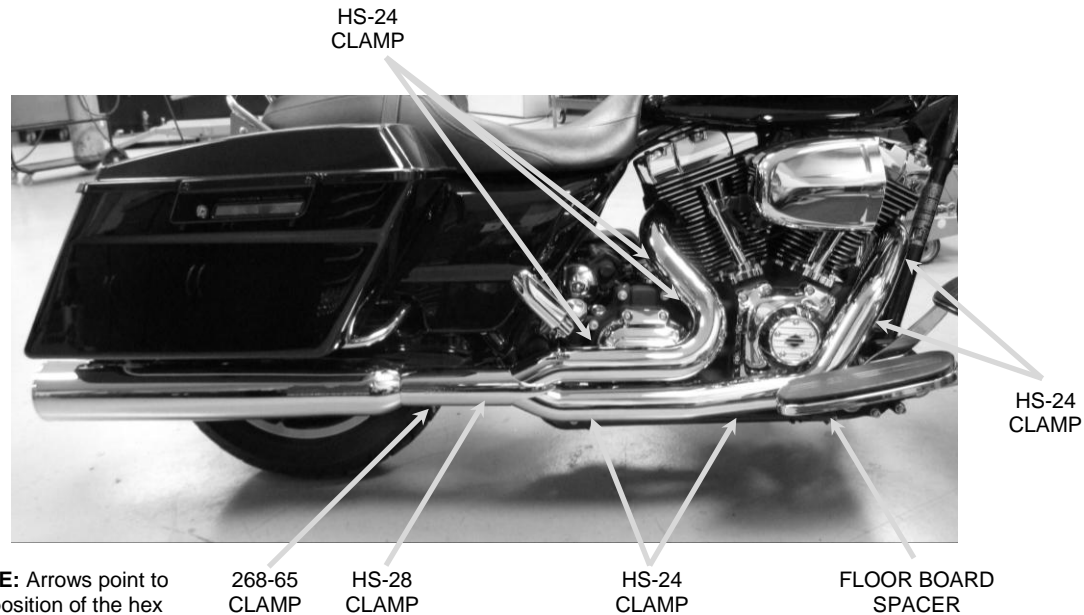

FIGURE 7
17. Unscrew the **HS-28** and **HS-24** clamps and feed the tail end of the clamp through the clips on the inside of the heatshields. The larger clamp (**HS-28**) goes to the 2 into 1 collector heatshield with the hex head facing down. The smaller clamps (**HS-24**) go to the front and rear headpipe heatshields. The hex head will face downward on the front heatshield and upward on the rear heatshield. See **FIGURE 7** for proper positioning of the clamps on the heatshields. (NOTE: The arrows point to the positioning of the hex head of the clamps. The hex head of the clamps should be accessible for tightening but not visible when the heatshields are mounted to the pipes.)
19. Install the rear heatshield the same way as the front heatshield and snug the clamps. **DO NOT TIGHTEN** at this time. See **FIGURE 7**.
23. Install the right floor board using the supplied spacer and stock bolts. The spacer goes between the frame and the rear mounting location for the floor board. See **FIGURE 7**. Tighten the fasteners to factory specifications.